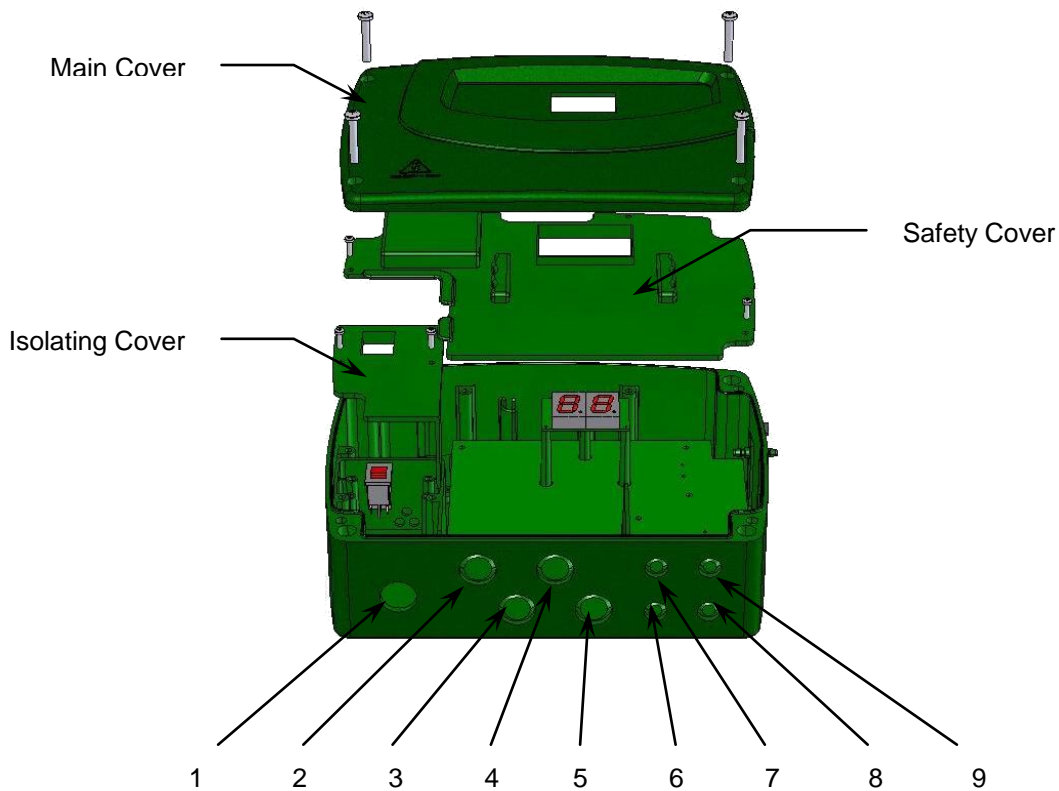

Figure 1 : Control Panel Gland Holes
- 3.3.4 Using a suitable M20 gland, feed the mains power supply through Gland Hole 1 (Figure 1). Wire the mains supply to the terminal blocks following the guide on the connections.
- 3.3.6 Using a suitable M20 gland, feed the motor power supply cable through Gland Hole 4 (Figure 1) and terminate to connections 5 & 6 (TB3) following the guide on Table 2.
3.4.1 Using a suitable M20 gland, feed the integral discharge pump power cable through Gland Hole 2 (Figure 1) and terminate to connections 1 & 2 (TB1) following the guide on Table 2.
3.5.1 Using a suitable M20 gland, feed the integral discharge pump power cable through Gland Hole 3 (Figure 1) and terminate to connection 3 & 4 (TB2) following the guide on Table 2.
- 3.6.1 Using a suitable M20 gland, feed the chemical dosing pump power cable through Gland Hole 5 (Figure 1) and terminate to connections 7 & 8 (TB4) following the guide on Table 2.
- 3.6.2 Using a suitable M12 gland, feed the chemical dosing probe cable through Gland Hole 8 (Figure 1) and terminate to connections 13, 14 & 15 (TB7) following the guide on Table 2.
- 3.7.1 Using a suitable M12 gland, feed the loss of rotation alarm cable through Gland Hole 6 (Figure 1) and terminate to connection 9 & 10 (TB5). The two contacts are not position sensitive.
- 3.8.1 Remove the link in the terminal blocks between connections 11 & 12 (TB6) before inserting cables. Using a suitable M12 gland, feed the high level alarm float cable through Gland Hole 7 (Figure 1) and terminate to connection 11 & 12 (TB6) following the guide on Table 2.
- 3.9.2 Using a suitable M12 gland, feed the cable from the beacon through Gland Hole 9 (Figure 1) and terminate to connection 16, 17 & 18 (TB8) following the guide on Table 2.